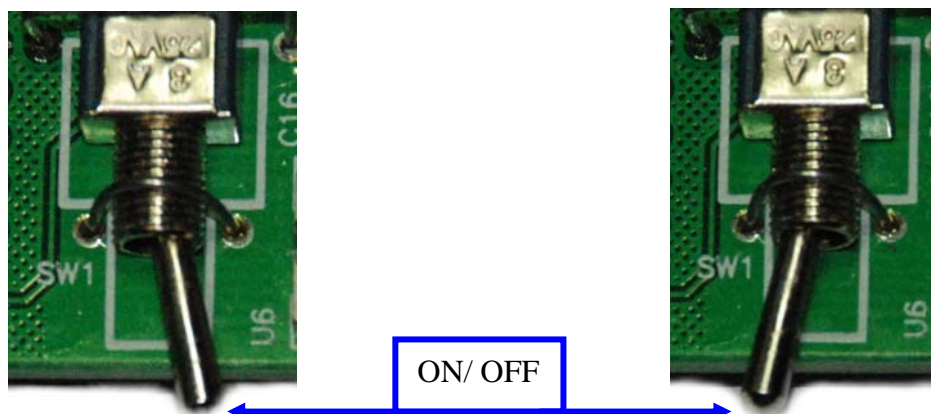

Figure 9.
Step 2: Turn ON power supply switch SW1 (Figure 9)
- Step 5: Turn OFF power supply switch SW1 (Figure 9)
- Step 7: Turn ON power supply switch SW1 (Figure 9)